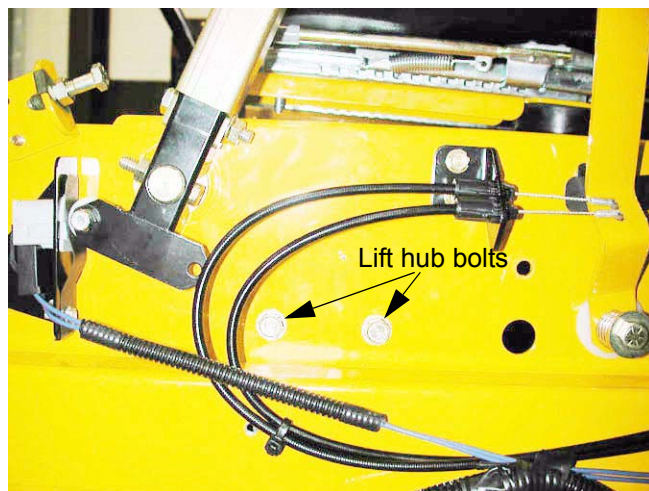

Figure 11.19
11.19. Unbolt the lift hub assembly from each side of the control housing using a 1/2" wrench. See Figure 11.19.